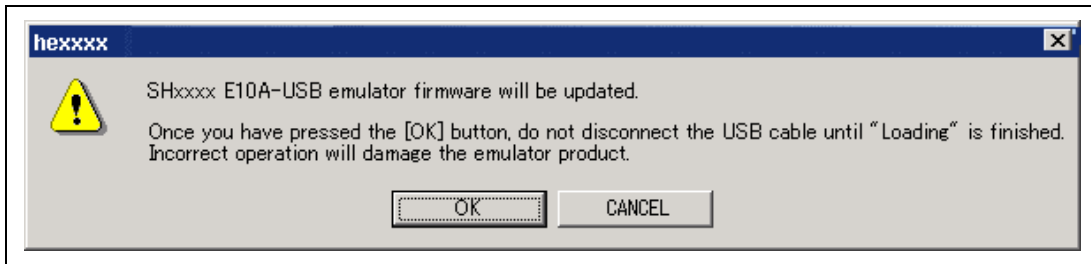
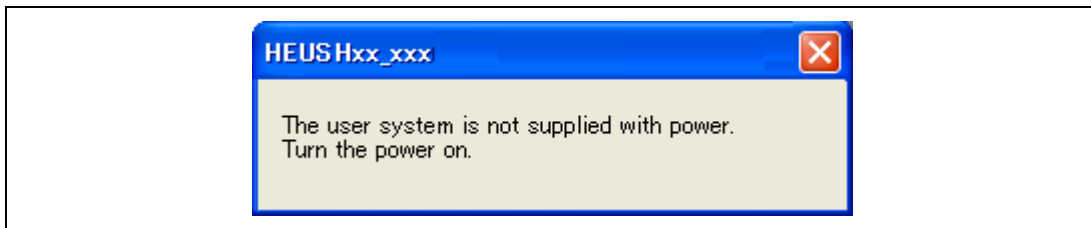

Figure 3.21 Dialog Box to Confirm Updating of the SHxxxx Emulator Firmware
Figure 3.22 Dialog Box of the Turn the Power On Message
9. The dialog box shown in figure 3.21 is displayed if no product groups have been installed in the emulator at the time of purchase or the emulator firmware has been set up for a different device group. The dialog box shown in figure 3.22 is displayed if an old version of the emulator firmware has been set up in the emulator. Clicking the [OK] button sets up the emulator firmware.
10. When the Reset assert (Auto Connect) option is in use, the dialog box shown in figure 3.22 is displayed. When the power of the user system is turned on, figure 3.22 is not displayed.